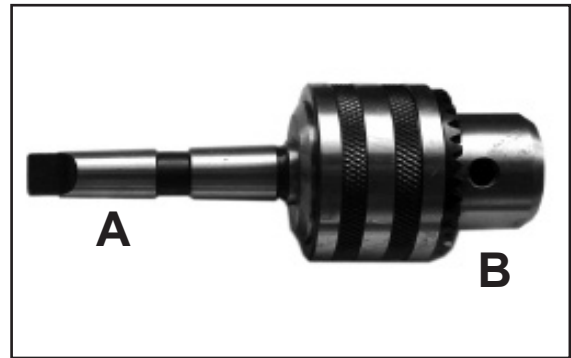

Figure 10
2. Insert the arbor (A-Fig.10) into the chuck (B-Fig.10) as shown.